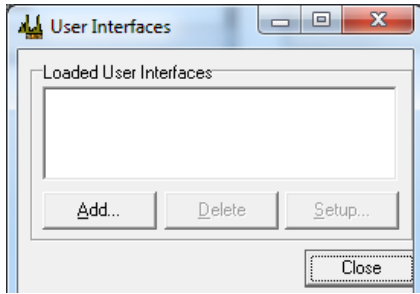
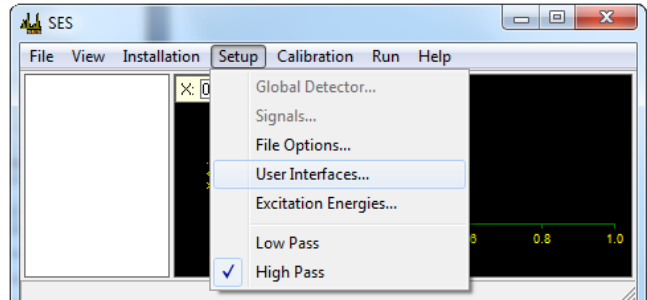

Fig. 4 SES user interface
Fig. 3 SES Setup Menu
1. After starting the SES software you must load the manipulator interface (if not already loaded). To do this go to *Setup->User Interface* (Fig. 3) menu. Window appears as in figure 4. When the user presses the *Add* button, he will be asked to identify the interface file named *Manipulator\_k.dll*. This file should be located in the *dll* subdirectory of the main program directory (default *c:\SES 1.2.5r2\dll\Manipulator\_k.dll*). Once loaded, the additional *Manipulator* menu should appear.